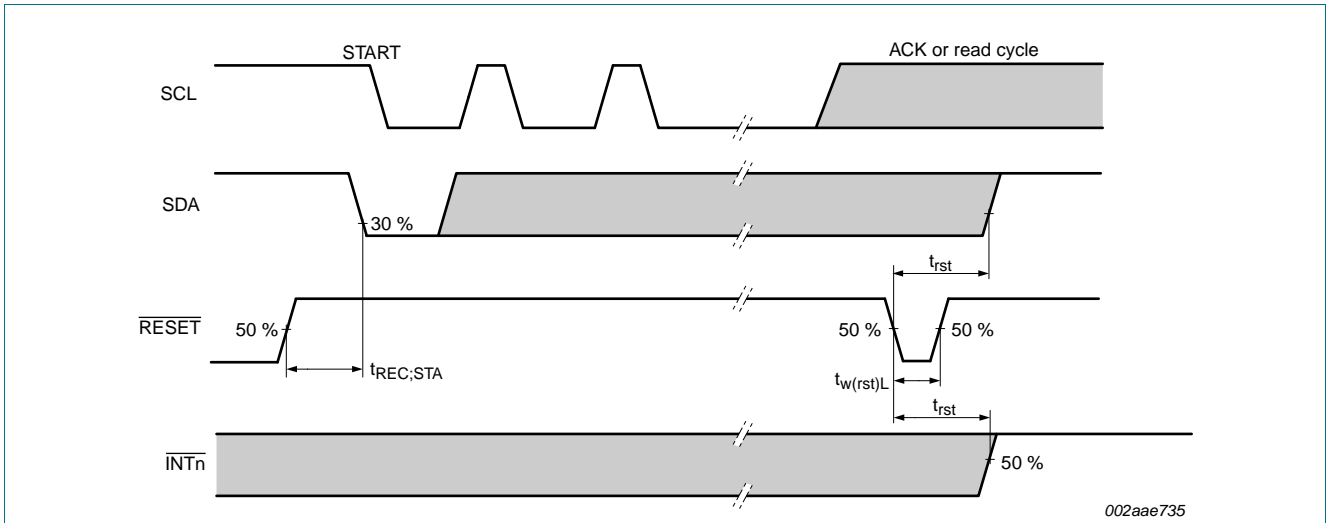

Fig 25. Definition of RESET timing
Modifications:	<ul style="list-style-type: none"> <li>Type numbers PCA9541D//02, PCA9541PW/02 and PCA9541BS/02 are withdrawn; this affects:               <ul style="list-style-type: none"> <li><a href="#">Section 1 "General description"</a>, 2nd paragraph modified; (old) 11th paragraph deleted</li> <li><a href="#">Section 2 "Features and benefits"</a>, (old) 4th bullet item deleted</li> <li><a href="#">Table 1 "Ordering information"</a> modified</li> <li><a href="#">Table 2 "Marking codes"</a> modified</li> <li><a href="#">Figure 2</a>, <a href="#">Figure 3</a> and <a href="#">Figure 4</a> modified</li> <li><a href="#">Table 6 "Register 0 - Interrupt Enable (IE) register bit description"</a>, <a href="#">Table note [1]</a> modified</li> <li><a href="#">Table 8 "Register 1 - Control Register (B1:B0 = 01b) bit description"</a>, <a href="#">Table note [1]</a> modified</li> <li><a href="#">Table 11 "Default Control Register values"</a> modified</li> <li><a href="#">Table 14 "Register 2 - Interrupt Status (ISTAT) register bit description"</a>, <a href="#">Table note [1]</a> modified</li> <li><a href="#">Section 8.5 "Power-on reset"</a>, (old) 2nd bullet item deleted</li> <li><a href="#">Section 8.6 "External reset"</a>, (old) 2nd bullet item deleted</li> <li><a href="#">Section 10.2 "High reliability systems"</a>, 1st paragraph modified</li> </ul> </li> <li>(Old) Table 16 "Static characteristics (2.3 V to 3.6 V)" and (old) Table 17 "Static characteristics (3.6 V to 5.5 V)" are merged.</li> <li><a href="#">Table 16 "Static characteristics"</a>, sub-section "Supply":               <ul style="list-style-type: none"> <li>Istb (Typ) at condition VDD = 2.3 V to 3.6 V changed from "10 μA" to "30 μA"</li> <li>Istb (Max) at condition VDD = 2.3 V to 3.6 V changed from "100 μA" to "80 μA"</li> <li>Istb (Typ) at condition VDD = 3.6 V to 5.5 V changed from "10 μA" to "40 μA"</li> <li>Istb (Max) at condition VDD = 3.6 V to 5.5 V changed from "200 μA" to "100 μA"</li> </ul> </li> <li><a href="#">Table 16 "Static characteristics"</a>, sub-section "Input SCL_MSTn; input/output SDA_MSTn (upstream and downstream channels)":               <ul style="list-style-type: none"> <li>for condition VDD = 3.6 V to 5.5 V, deleted IIL and IIH specifications (was in old Table 17)</li> </ul> </li> <li><a href="#">Table 16 "Static characteristics"</a>, sub-section "Select inputs A0 to A3, <math>\overline{\text{INT\_IN}}</math>, <math>\overline{\text{RESET}}</math>":               <ul style="list-style-type: none"> <li>for condition VDD = 3.6 V to 5.5 V, ILI (Max) changed from "+50 μA" to "+1 μA" (from old Table 17)</li> </ul> </li> <li><a href="#">Table 16 "Static characteristics"</a>, sub-section "Pass gate":               <ul style="list-style-type: none"> <li>for condition VDD = 3.6 V to 5.5 V, IL (Max) changed from +100 μA to +1 μA (was in old Table 17)</li> </ul> </li> <li><a href="#">Figure 25 "Definition of RESET timing"</a> modified:               <ul style="list-style-type: none"> <li>changed signal name from "LEDx" to "INTn"</li> <li>deleted "LED off"</li> </ul> </li> </ul>